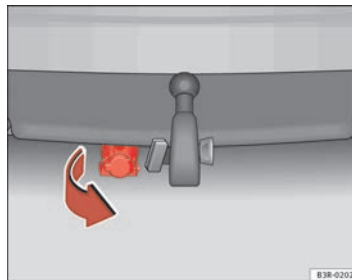

Fig. 160 Rear bumper: Pulling down the connecting socket
- To plug in the electrical connection for the trailer, pull down the socket below the bumper ⇒ page 200, fig. 160.